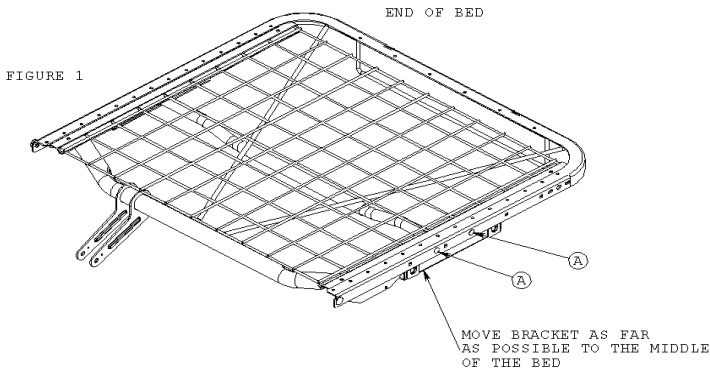

FIGURE 1
1. Install the mounting bracket (not included) as far to the center of the bed as possible. This requires removing the bolts (item A) for the mounting brackets, moving the brackets to the required location, and re-installing the bolts (Figure 1). Tighten to 9 lbs-ft.